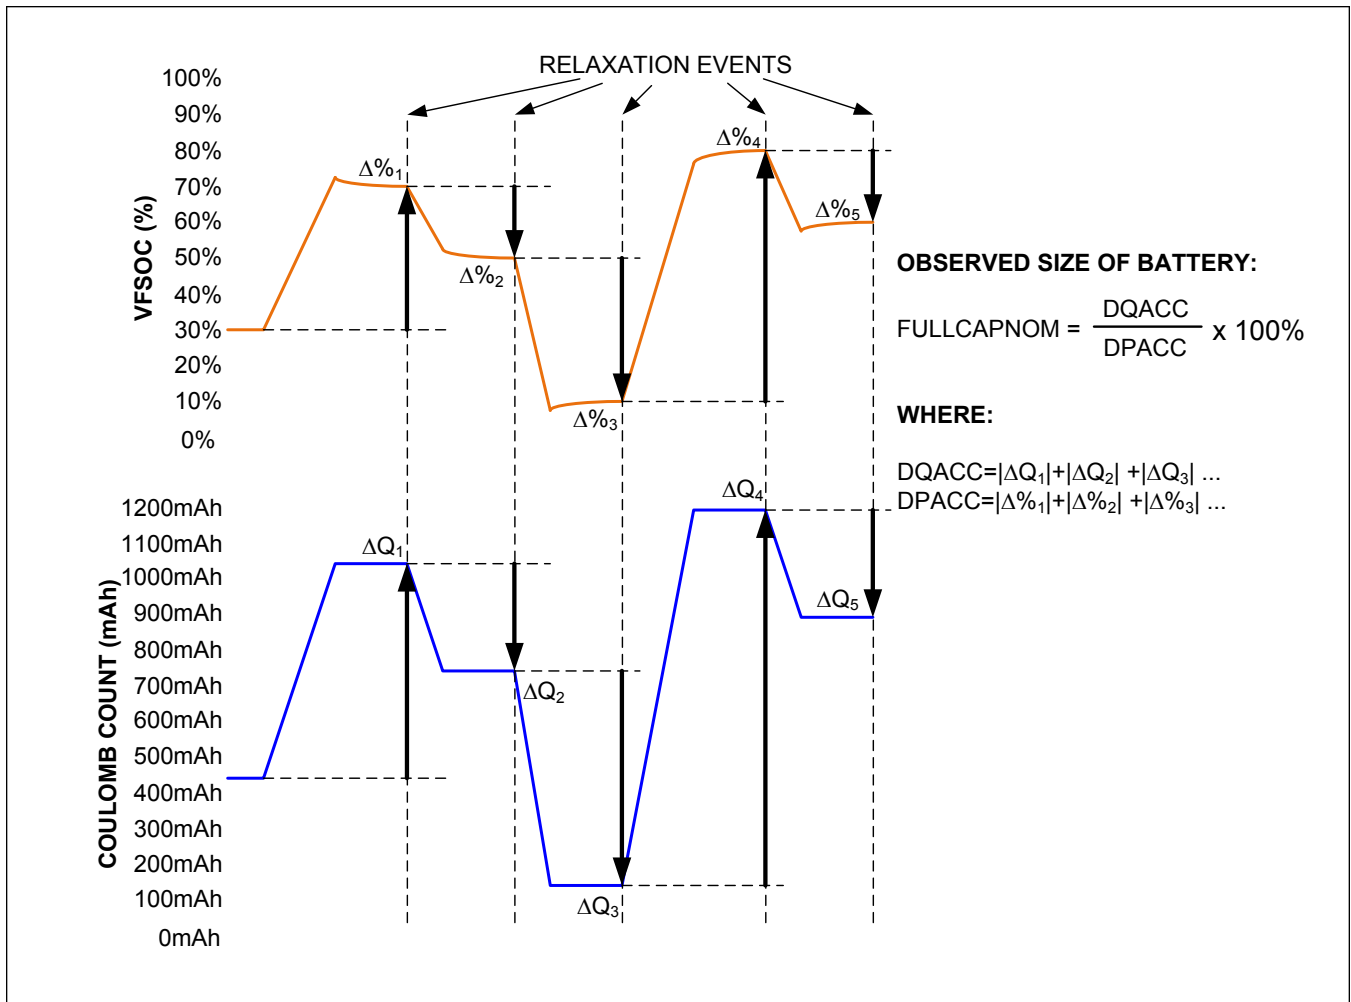

Figure 19. FullCapNom Learning
- **Cell Capacity (*FullCapNom* Register).** This is the total cell capacity at full, according to the voltage fuel gauge. This includes some capacity that is not available to the application at high loads and/or low temperature. The IC periodically compares percent change based on an open circuit voltage measurement versus coulomb-count change as the cell charges and discharges, maintaining an accurate estimation of the pack capacity in milliamp-hours as the pack ages. See Figure 19.